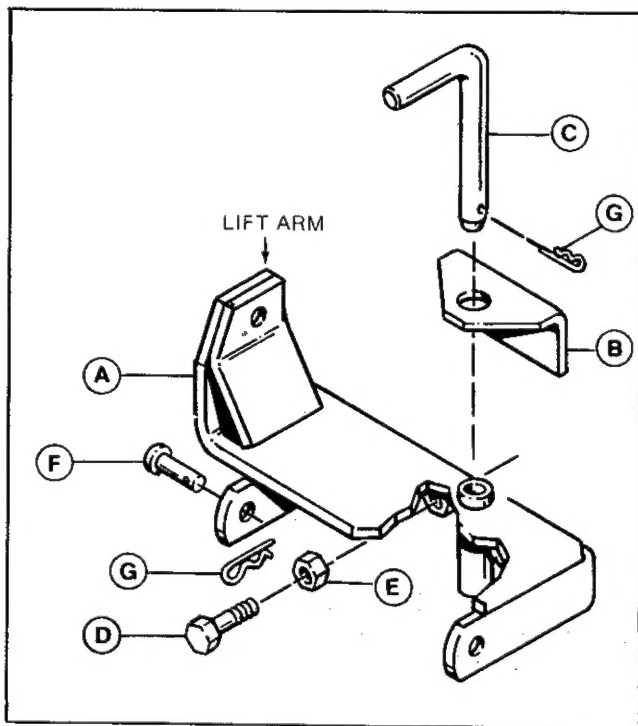
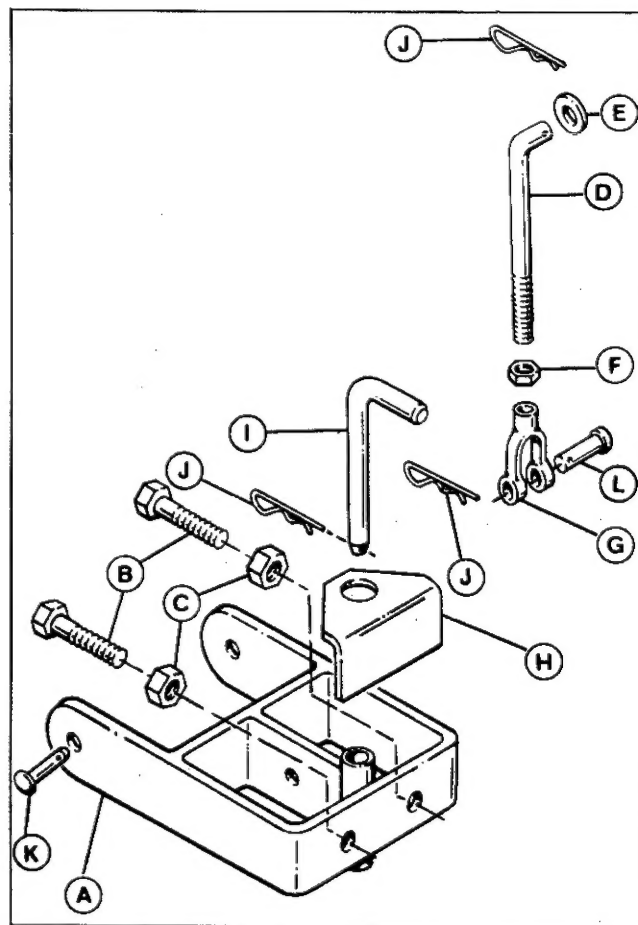

Figure 5. Tractor Hitch - Compact Garden Tractor
Figure 6. Tractor Hitch - Large Garden Tractors
1. Remove the stabilizer plate (B, figure 5 or H, figure 6) and two stabilizer bolts from the tractor hitch.
1. Install the stabilizer plate (B, figure 5 or A, figure 6), bolts and jam nuts. The bolts are threaded thru holes to hold the stabilizer plate in position and the jam nuts tightened against hitch to secure the bolts.
1. Remove the stabilizer plate (B, figure 5 or H, figure 6) and stabilizer bolts from the hitch. These parts are not used with the disc harrow.